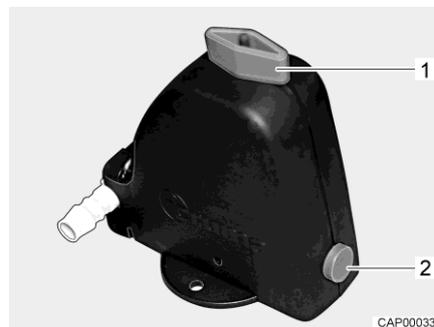
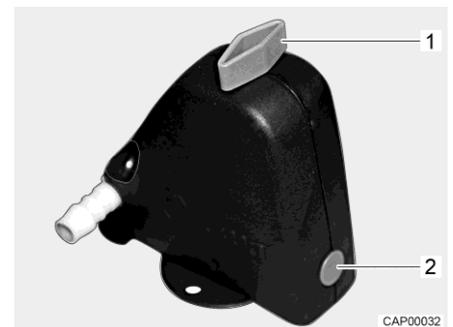

Fig. 94 Safety/drainage valve open
Fig. 95 Safety/drainage valve closed
- Close the safety/drainage valve. Turn the knob (Fig. 94,1) perpendicular to the safety/drainage valve and push the push button (Fig. 94,2) in. The closed safety/drainage valve is shown in Fig. 95. If the temperature is below 6 °C, the safety/drainage valve cannot be closed.